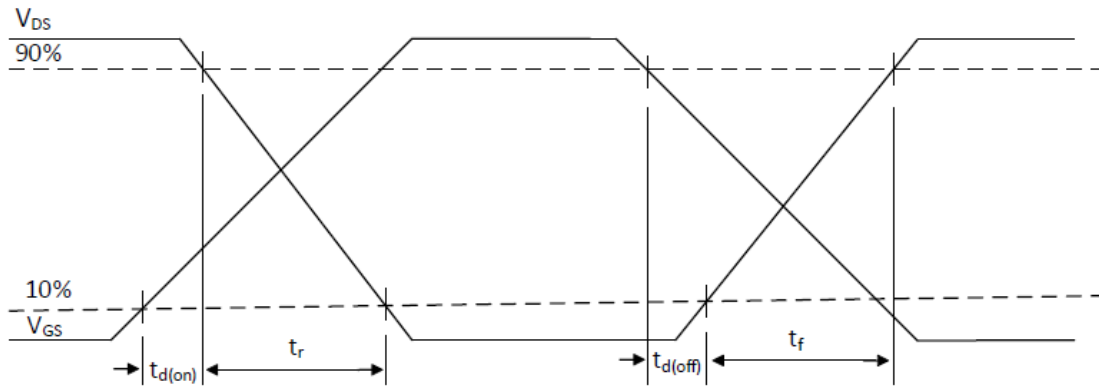

Figure 17: Switching Time Waveforms
(7) See Figure 17 for switching time definition waveforms.
(8) L_P = parasitic inductance.